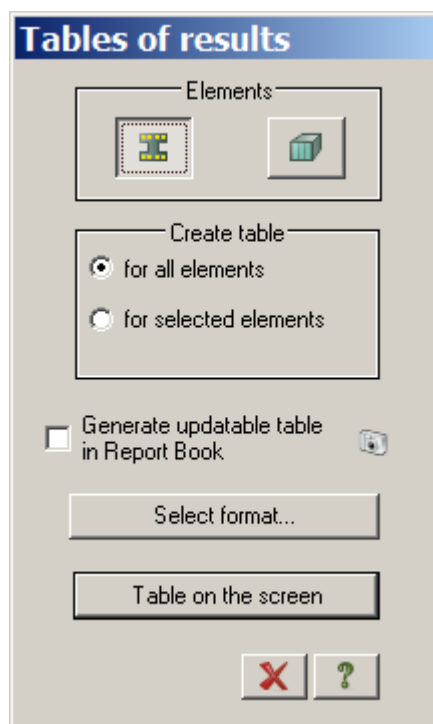

Figure 2.21 **Tables of analysis results** dialog box
- ⇒ In the **Tables of analysis results** dialog box (see Fig.2.21), click the **Plates** option in the **Elements** area. By default, option **For all elements** in the **Create table** area is selected.